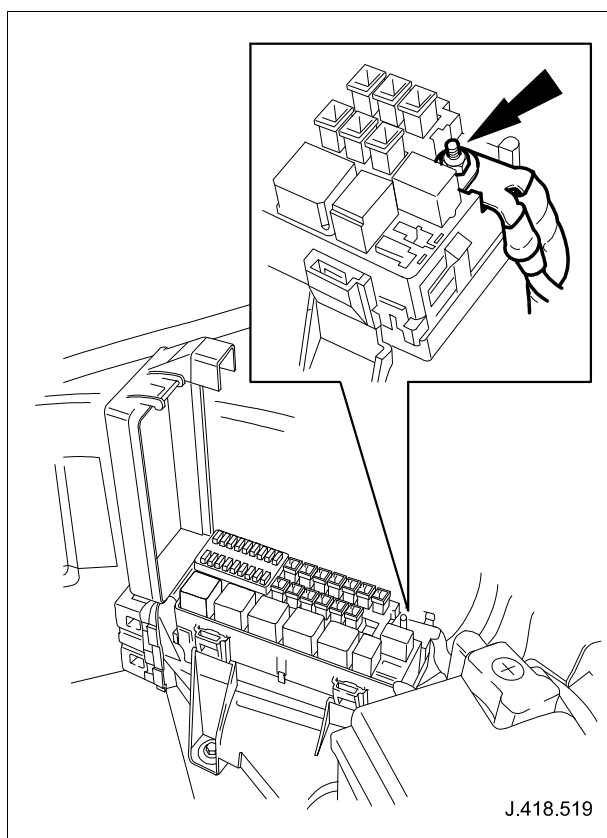

Fig. 5
- 2.3 Check fuse box power lead, as shown in Fig. 5. (Torque tighten to $12\text{Nm} \pm 1.8\text{Nm}$)